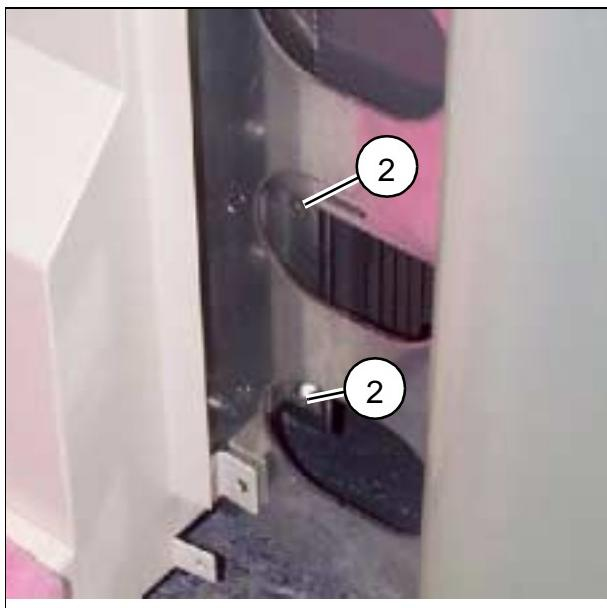

Fig. 10
- Remove two back nuts (2/Fig. 10).